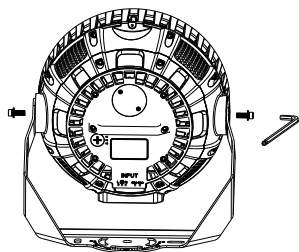

Figure 1
Step 1: Fix the Yoke mount bracket to the heat sink with M10 screws (torque: 59.72 ft-lb) (Figure 1)